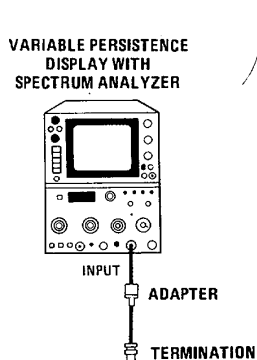

Figure 4-16. Residual Responses Test Setup
2. Terminate INPUT 501 connector with 50-ohm coaxial termination (see Figure 4-16).